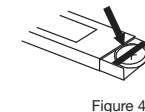

Figure 4
3. Gently pull out plastic circuit board with battery chamber approximately 1 cm (slightly less than 1/2"). (See Figure 4)